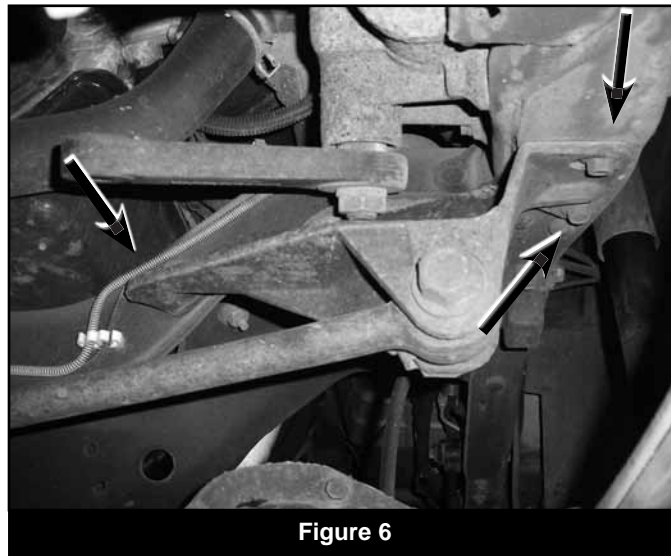

Figure 6
15. Remove the (3) bolts mounting the track bar bracket to the frame and front frame crossmember. The two bolts at the frame thread into a nut tab inside the frame (Fig 6). Remove the bracket from the vehicle. Save hardware.
16. Mark the relationship between the steering sector shaft and the pitman arm for reference. Remove the pitman arm nut/washer (Fig 6). Remove the pitman arm from the steering box sector shaft with an appropriate pitman arm puller. Save hardware.